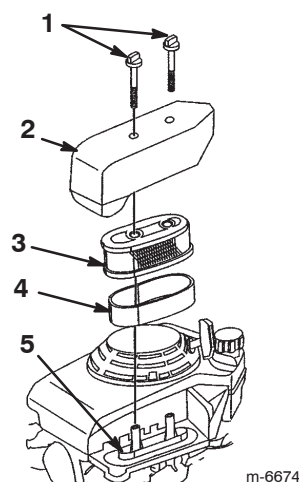

Figure 17
3. Remove the 2 wing bolts that secure the cover (Fig. 17).
5. Remove the foam and paper elements from the base (Fig. 17).
6. Remove the foam element from the paper element (Fig. 17).